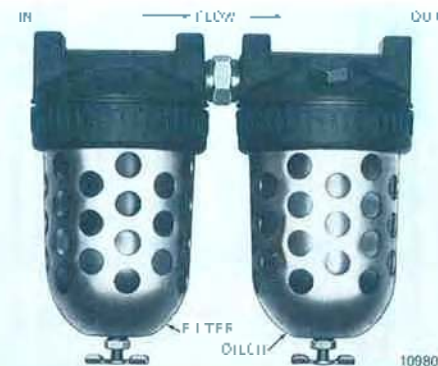

Figure 2-3. Air Filter and Lubricator Unit.
c. A filter and lubricator unit (Figure 2-3) must be installed between air source and air hose leading to hoist. These keep air flowing to hoist free of dirt and add lubricant to air so internal parts of motor are constantly lubricated. Use Air Hoist Motor Oil or good grade 10W machine oil (approximately viscosity 150 SSSU at 100°F). Multi-viscosity, detergent type engine oil is not recommended. Feed one drop of oil for every 50 to 75 cubic feet of air going through the air motor.